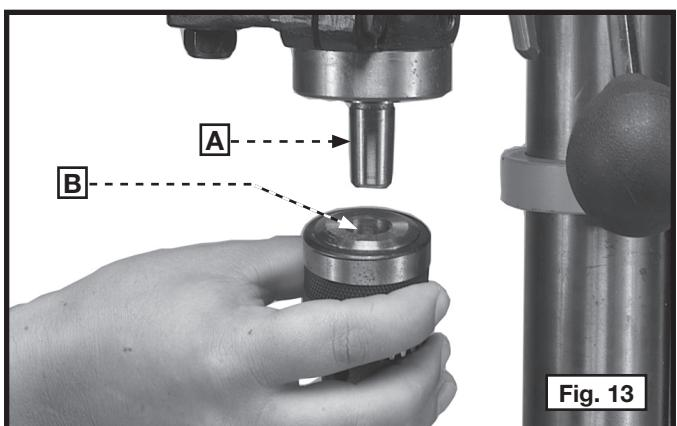

Fig. 13
IMPORTANT: Clean the spindle taper (A) Fig. 13 and the tapered hole in the chuck (B) so that they have no grease, lacquer, or rust preventive coatings.